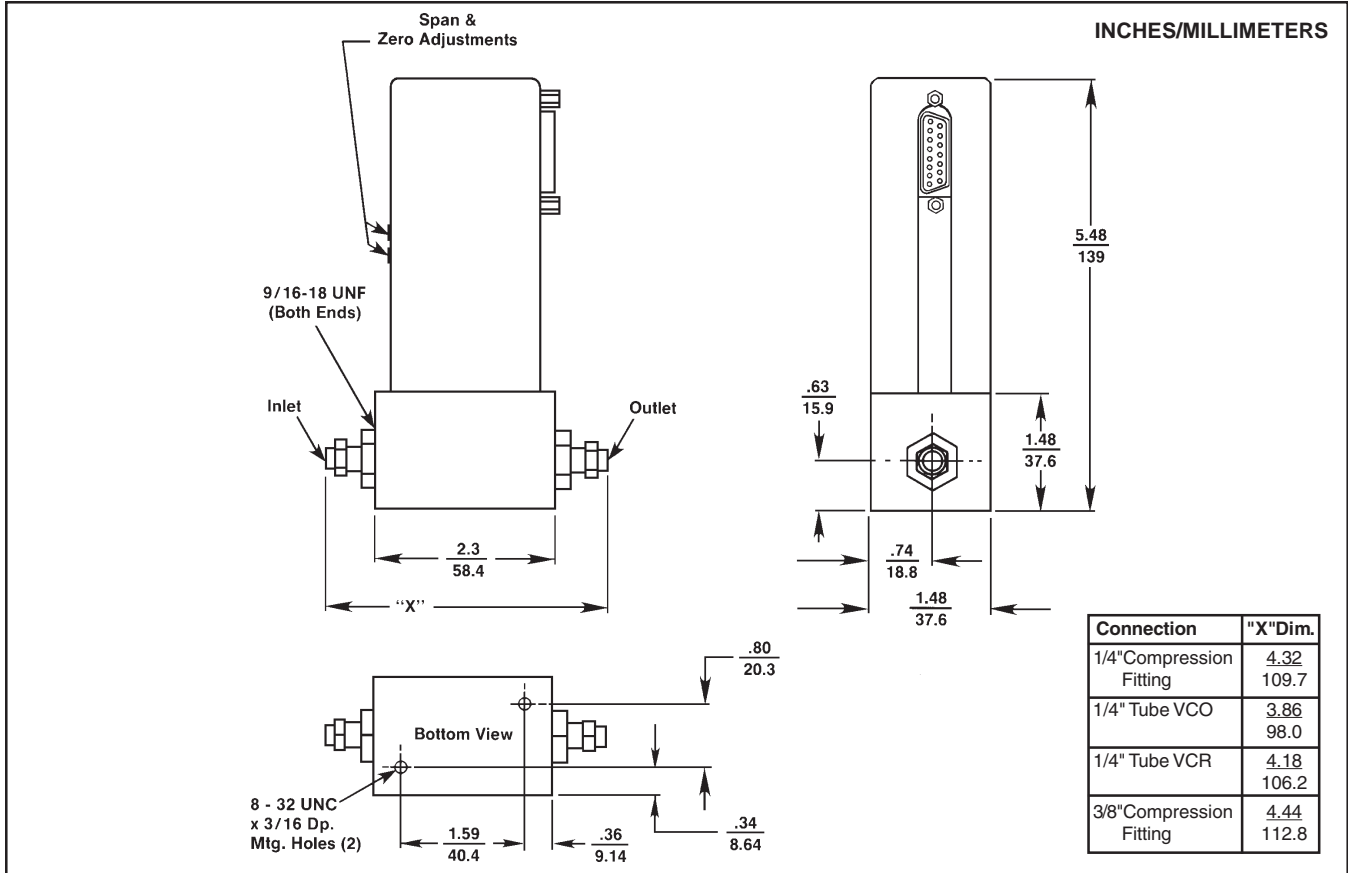

Figure 2-1 Model 5860E Dimensions
**2-5 Installation (Refer to Figures 2-1 through 2-2)****⚠ CAUTION**